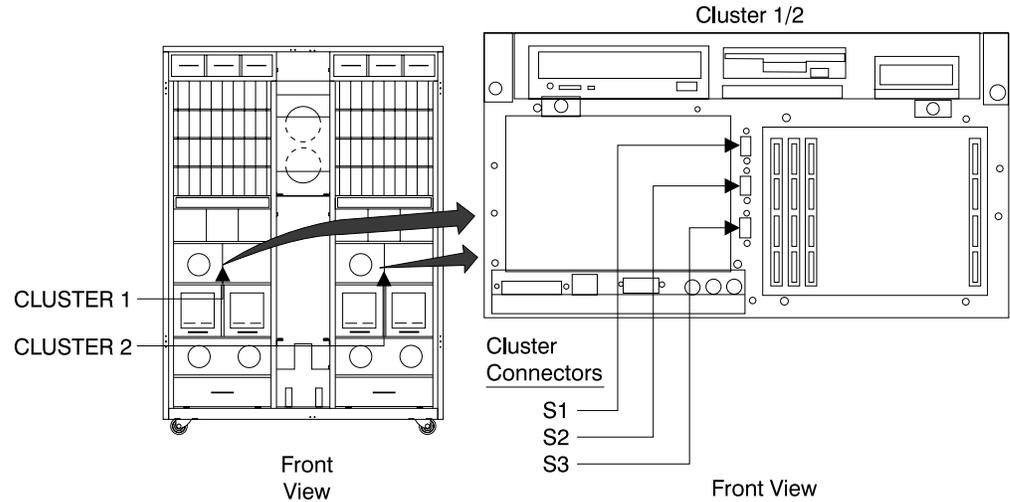

Figure 243. Cluster Bay Connectors for Service Terminal (S008027m)
- b. Connect the other end of the cable to S2 [Figure 243] on the front of cluster bay 1.